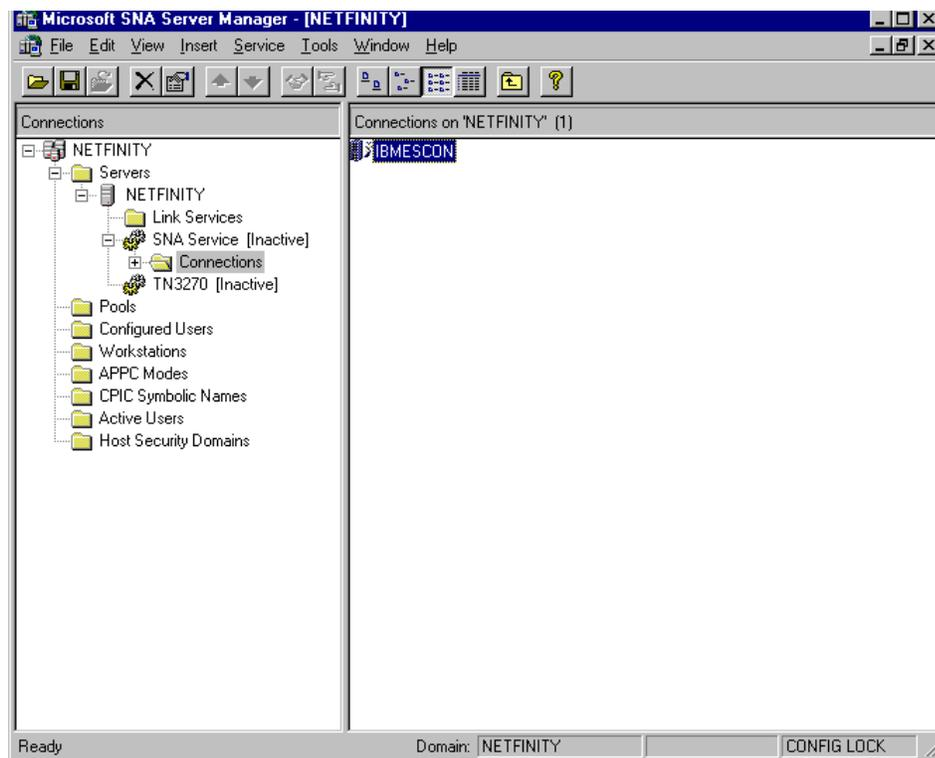

Figure 8-16. Configured Connection
8. When you return to the SNA Server Manager dialog box, the new Connection will be displayed (See Figure 8-16).